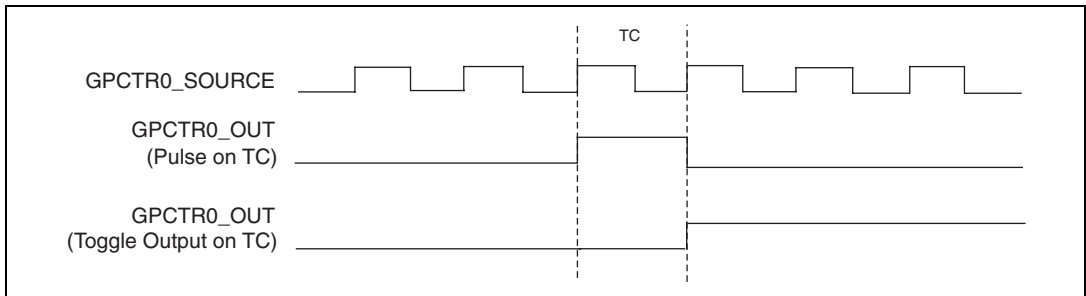

Figure 4-37. GPCTRO_OUT Signal Timing
This signal is available only as an output on the GPCTRO_OUT pin. The GPCTRO_OUT signal reflects the terminal count (TC) of general-purpose counter 0. You have two software-selectable output options—pulse on TC and toggle output polarity on TC. The output polarity is software-selectable for both options. This output is set to high impedance at startup. Figure 4-37 shows the timing of the GPCTRO_OUT signal.